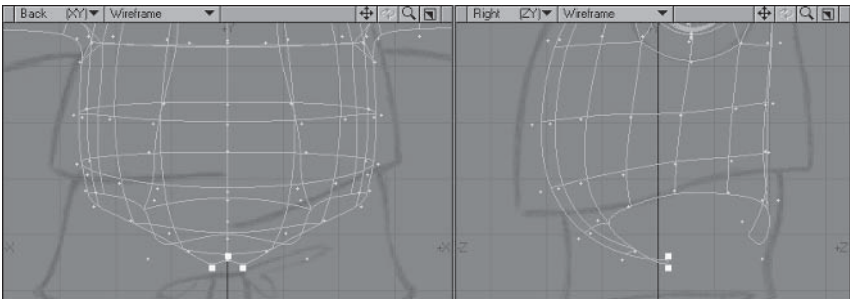

Figure 5.4-14. Extend the points.
4. Select the bottom three points of the front and **Extend**, moving them back to the middle of the legs, and adjust to match Figure 5.4-14.